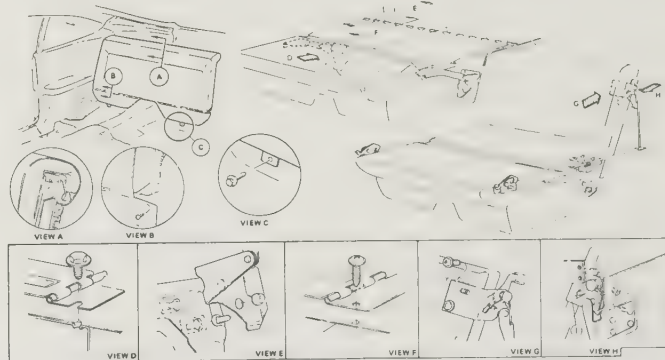

Fig. 12.34. Rear seat installation (folding type) (Sec. 46)
- 1 Remove the two screws retaining the rear seat back supports to the floor panel (Fig. 12.34).